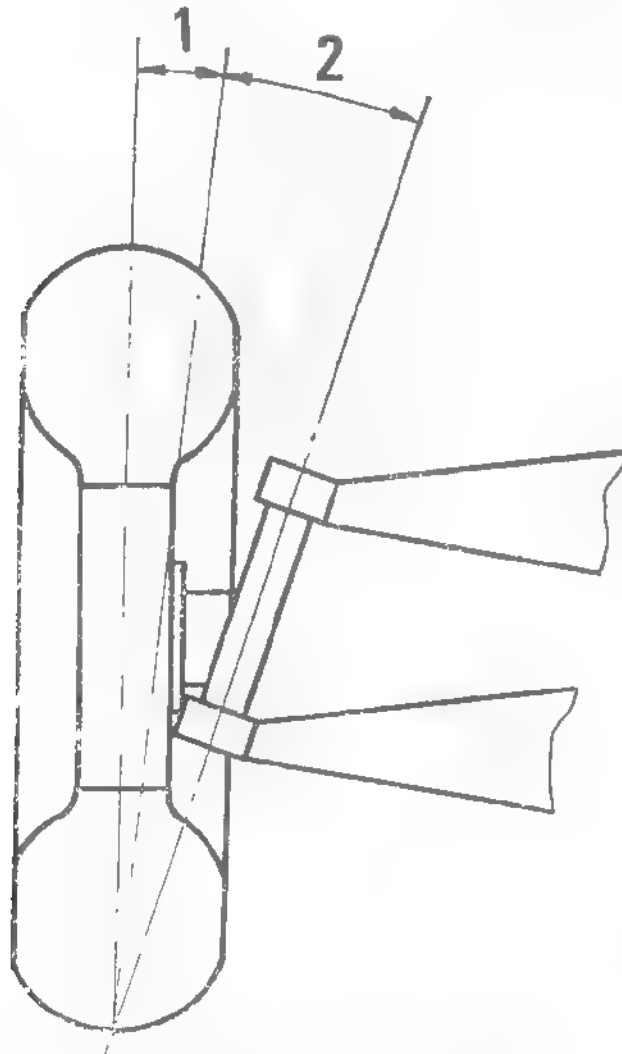

Fig.2.50. FRONT WHEEL KING-PIN CAMBER ANGLE
The camber angle value is $1^{\circ} \pm 30'$, provided that between the R.H. and the L.H wheel the angle difference should not be more than $45'$, (see fig.2.50).
- It is measured in the same time with the wheel camber angle and its value should be $10^{\circ} \pm 30'$, provided that between the R.H. and L.H. wheel the difference should not exceed $45'$ (see fig. 2.50).